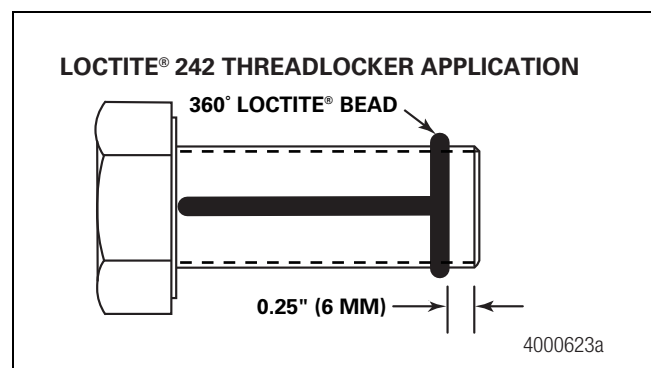

Figure 4.10
13. Apply a 0.125-inch (3 mm) bead of Loctite® 242 threadlocker around the capscrew threads approximately 0.25-inch (6 mm) from the end. Apply a 0.125-inch (3 mm) bead of Loctite® 242 threadlocker across the length of the threads. Figure 4.10.